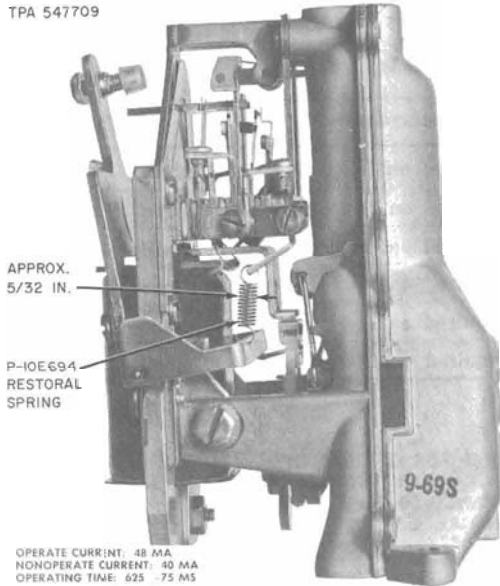

Fig. 54—Coin Relay Showing Old Operating Values
*Newly repaired coin relays will differ in operate values from earlier relays (Fig. 54 and 55). These relays will be marked with an asterisk (\*) adjacent to the part No.*